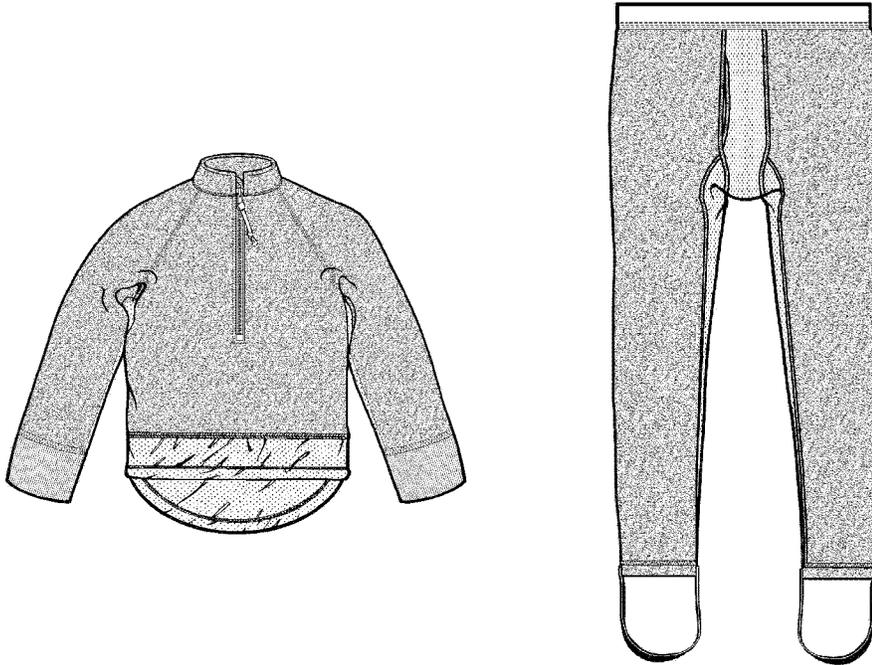

Figure 3-44. Heavyweight Shirt and Trouser
3. The heavyweight garment set (figure 3-44) will provide the level of protection required for in-water immersion when used with the anti-exposure coverall. The zip neck shirt is made of an aramid double velour with is modeled after the 200 weight polyester double velour available commercially. This layer can be worn alone or with the Silkweight and/or Midweight layers under a flight suit or an anti-exposure